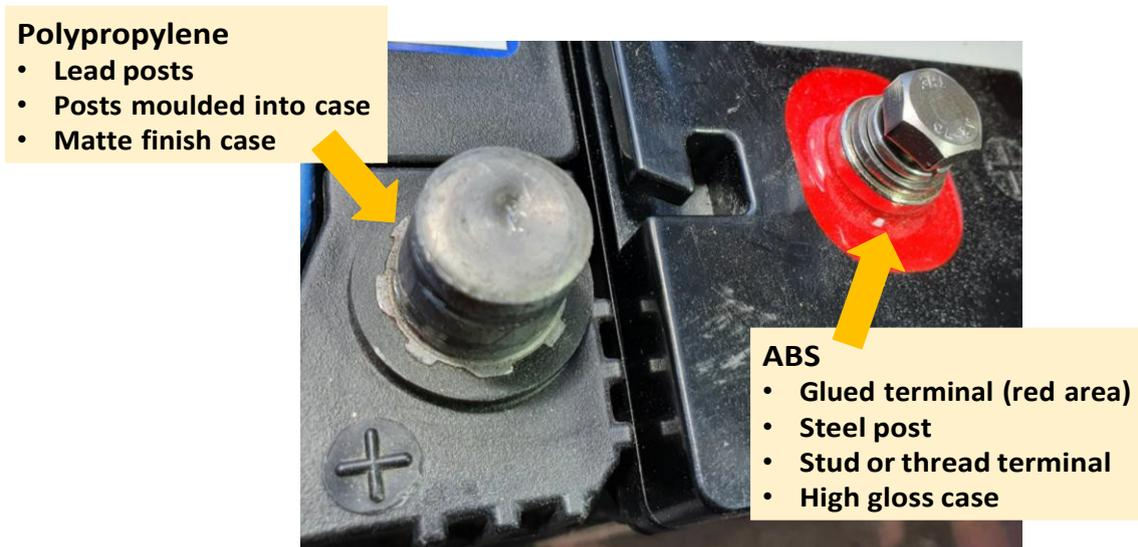

Fig.6
Batteries which are designed to be installed in the engine bay will have a polypropylene (PP) case and will be identified by 'PP' or a number 5 inside the recycling triangle (Fig.5). PP normally has a matte or satin finish rather than full gloss. The majority of starting and marine batteries have PP cases. Another way to identify a PP case is the moulded in lead posts, where ABS cases will almost always have a threaded stud or boss terminal which is bonded or glued in (Fig.6).